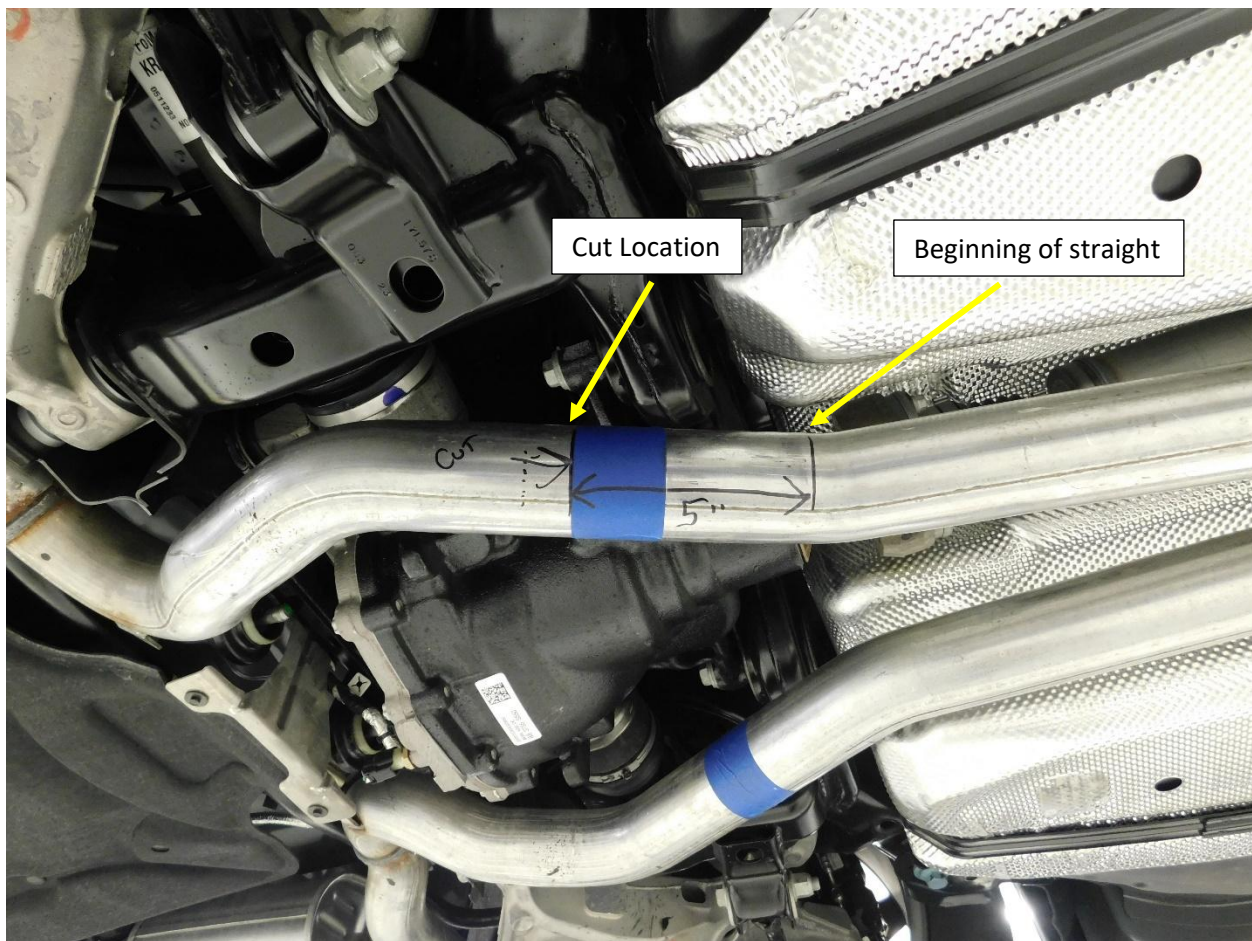

Figure. 3
4. Mark the exhaust pipe between the center resonator and the Muffler as shown in **Fig.3**
- Use a reciprocating saw or cut off wheel and cut the exhaust at the edge of the tape as shown in **Fig.3**